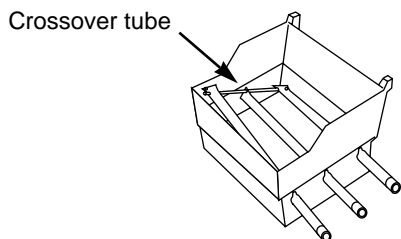

Figure 10
- g) Lift and twist the burner assembly slightly, to separate the crossover tube from the burners. Figure 10. Remove the burners from the cooking box.